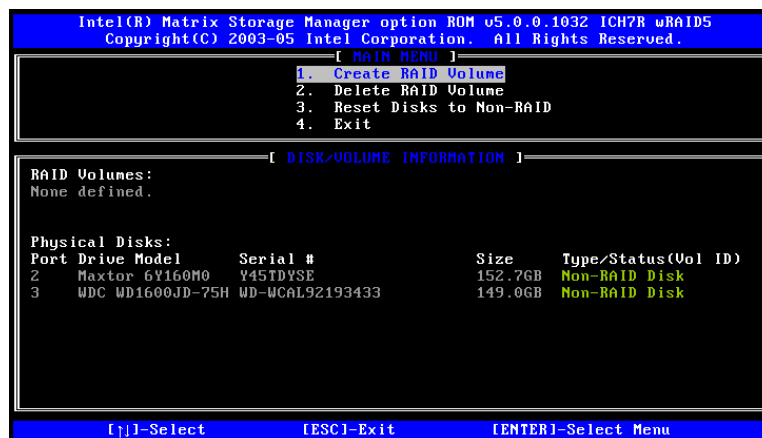

Figure G-1: Matrix Storage Manager Main Menu
- Step 1: Select “Create RAID Volume”.** Use the arrow keys to highlight **Create RAID Volume** and press **ENTER**. See **Figure G-1**.